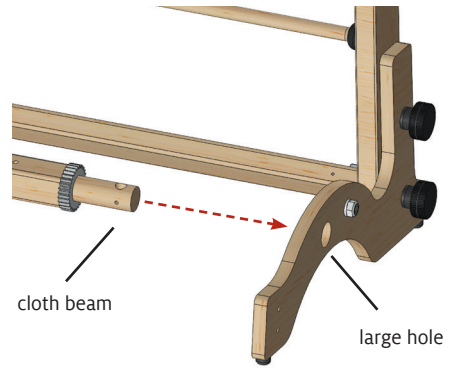

FIGURE 3: INSERT CLOTH BEAM
3. Insert one cloth/warp beam (now the cloth beam) through the large hole in the base (Figure 3). Both beams are identical and their ends are identical. The ratchet gear should sit against the base so the ratchet dog will engage.